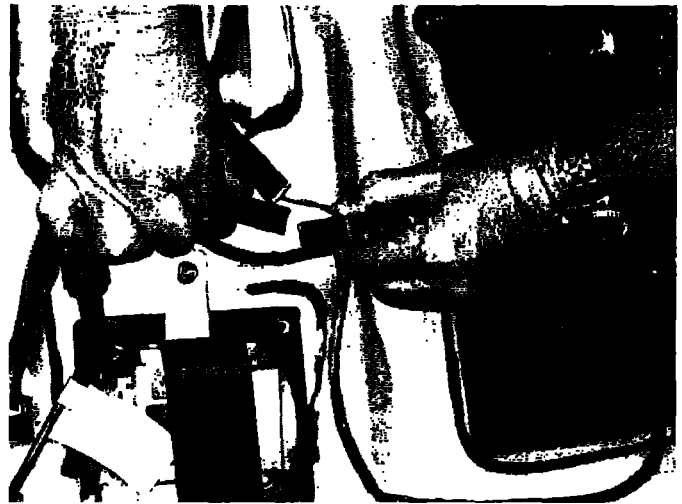

Figure 13
19. Connect latch switch connector (see Figure 13).